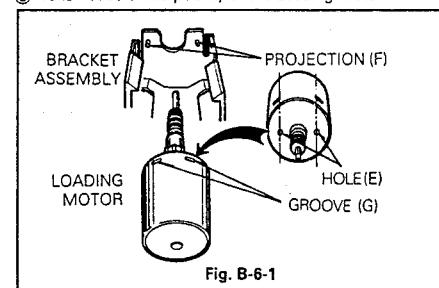

Fig. B-6-1
6. Loading Motor Assembly(Fig. B-6-1, B-6-2)
① Make sure that the worm assembly is seated in the axis of Loading Motor.
- ② Two grooves(G) of Loading Motor should be turned up and two projections(F) of Bracket Assembly should be seated in each at the two holes(E)(Fig. B-6-1).
- ③ Take notice of the polarity of the Loading Motor.